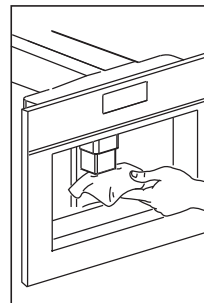

Fig. 36
- Clean the spouts periodically using a sponge (Fig. 36).